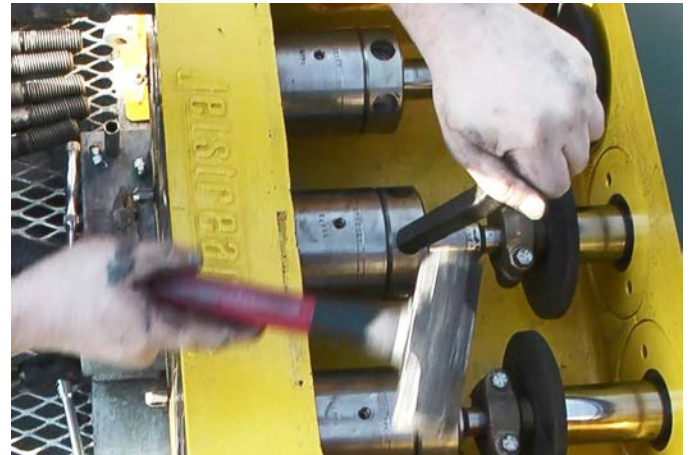

Fig. 52: Tightening the Gland Nuts
16. Ensure the gland nuts are tight. Use the pump wrench and a 5 lb. (2 kg) hammer to tighten the gland nuts to approximately 250 ft.-lb.(338 N·m). Refer to Fig. 52. Hit the wrench about three times using moderate power. This should supply sufficient torque on the nut.